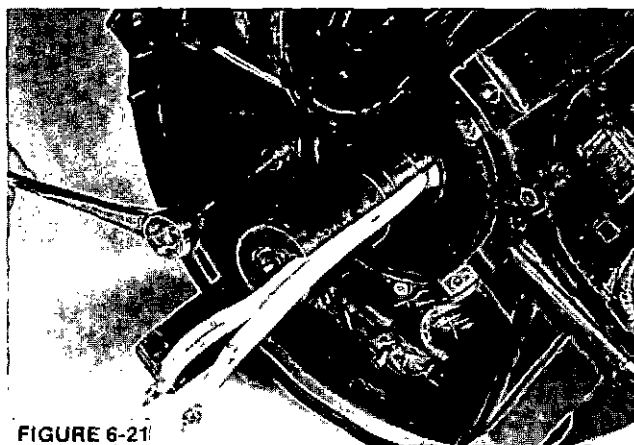
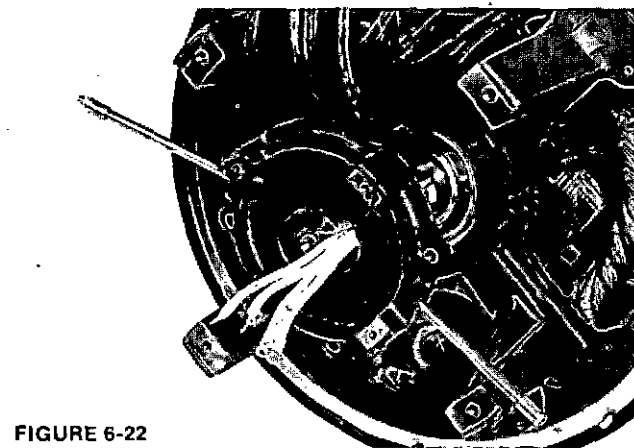

FIGURE 6-21
FIGURE 6-22
2. a. For single bearing generators, remove the four capscrews holding the bearing caps to the front end bracket. (Figure 6-21.) Remove the outer cap. (Figure 6-22.)
- b. For two-bearing generators, remove the capscrews and lockwashers holding the bearing lock to the drive end bracket. (Figure 6-23.) Remove the four capscrews holding the bearing caps to the front end bracket. (Figure 6-21.) Remove the outer cap. (Figure 6-22.)